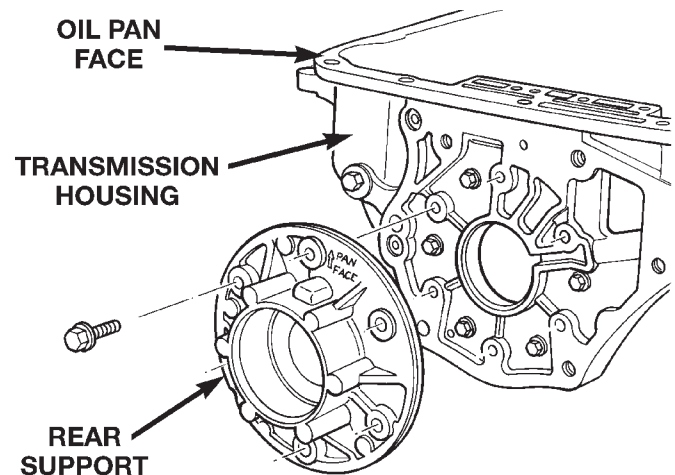

Fig. 94 Rear Support
- (11) Insert low-reverse drum and overrunning clutch into front of transmission case and into rear band.
- (12) Insert awl tip into the threaded hole next to the non-threaded hole in the overrunning clutch cam. Verify that non-threaded hole is aligned with wide space area on transmission case.
- (13) Push low-reverse drum rearward to close gap between cam and case.
- (14) Install overrunning clutch cam bolts. **Clutch cam bolts are shorter than rear support bolts.** Tighten cam bolts to 17 N·m (150 in. lbs. or 13 ft. lbs.) torque.
- (15) Hold low-reverse drum in position so rear support will not push it out of overrunning clutch.
- (16) Insert rear support into opening at rear of transmission case (Fig. 94).
- (17) Align support with the embossed arrow in the direction of the pan face.
- (18) Install and tighten rear support bolts to 17 N·m (150 in. lbs.) torque.